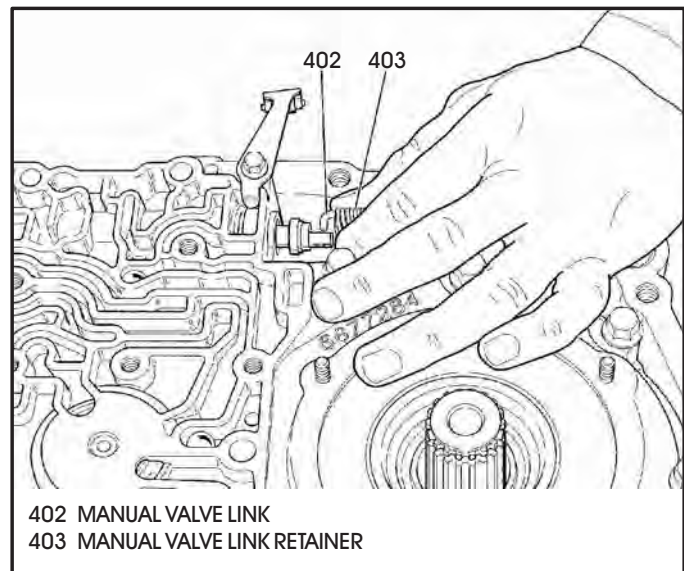

Figure 197
64. Connect the manual valve by pulling back on the link retainer with your fingers and hooking the link in the manual valve (See Figure 197).